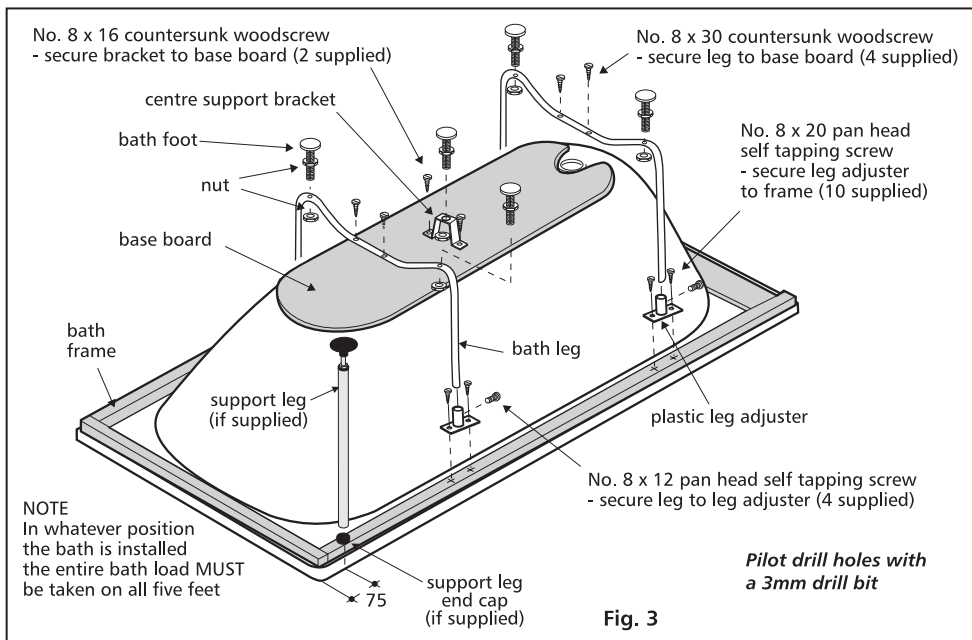

Fig. 3
6. Tonic Only. Fit support leg end cap to front member of wooden frame in position shown (Fig. 3).